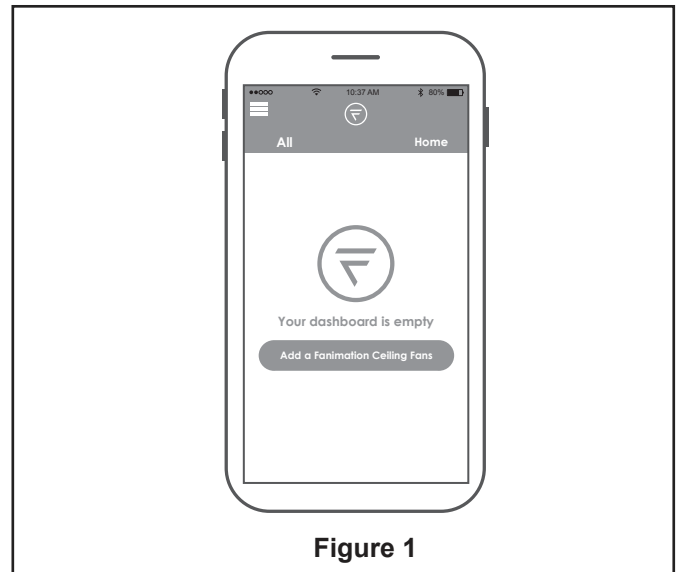

Figure 1
- 1. Visit the Apple APP Store or the Google Play Store to download the free fanSync WiFi APP. Create your Fanimation fanSync account. (Figure 1)
1. **Installing Wall Plate:** (Figure 1)